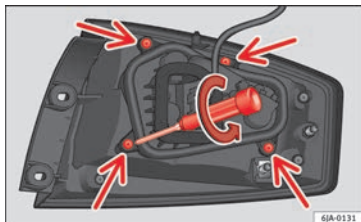

Fig. 100 Retaining screws on reverse side of rear light unit.
- Unscrew the four retaining screws from the bulb holder anti-clockwise using a screwdriver or a Torx 20 key (T20) from the vehicle tool kit » Fig. 100. Take care not to lose the bulb holder retaining screws.